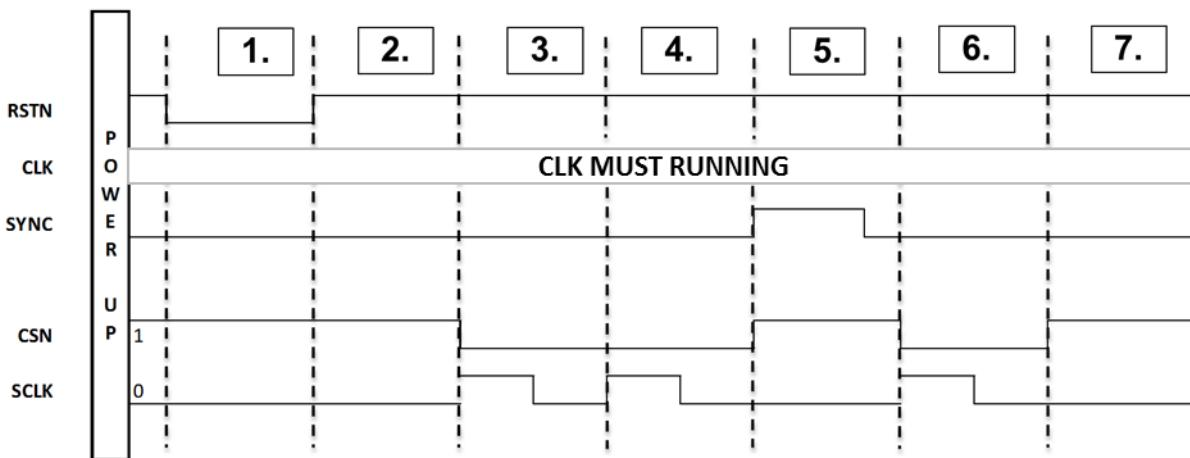

Figure 13 – Start-up sequence when using the SPI interface
Figure 13 presents the reset and synchronization to realize after power-up when the SPI is used (see section Serial Peripheral Interface (SPI) for more information on the SPI interface).
- **5.** A pulse is applied onto the SYNCTRIG input to reset the internal clocks (SYNC signal in Figure 13). At this stage, the trigger mode is disabled.
It is asynchronous regarding the external clock. It is active high and should be compliant with the timing shown in the chronograms of Figure 13 and specified in Table 8 to work properly. It becomes effective on the rising edge of SYNCTRIGP, SYNCTRIGN.